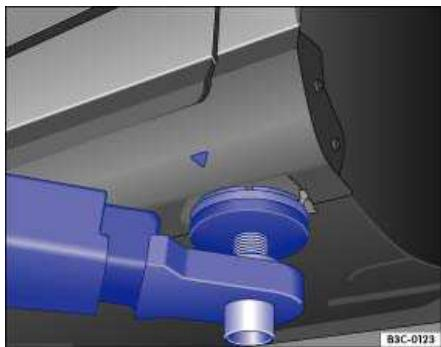
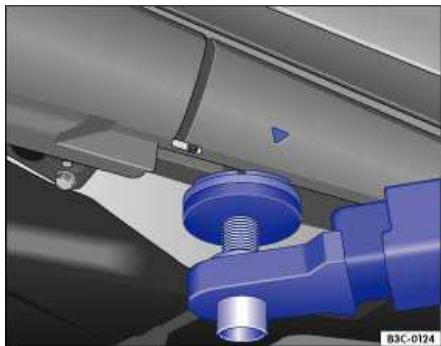

Fig. 325 Front lift point for workshop hoist or floor jack.
Fig. 326 Rear lift point for workshop hoist or floor jack.
The vehicle may only be raised at the lift points shown in illustrations and ⇒ fig. 326. If the vehicle is lifted at different points, vehicle damage ⇒ ① and serious injuries may occur ⇒ ▲.
- Always lift your vehicle only at the designated lift points shown in the illustrations ⇒ fig. 325 and ⇒ fig. 326. Not using the designated lift points can cause the vehicle to fall off the floor jack when heavy parts such as the engine or transmission are removed.